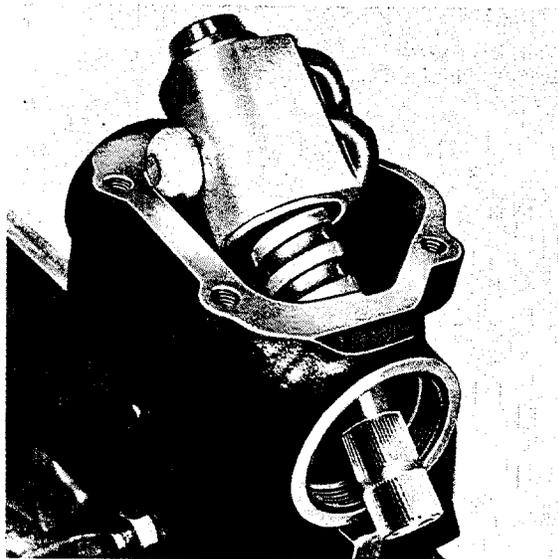

Fig. L 4/10
26. Smear sealing compound on the lower threads of the adjusting ring (2) and screw the adjusting ring into the housing; when doing this, press Guide Sleeve (1) 180 589 0061 onto the steering worm (Fig. L 4/11).
**Note:** It is absolutely essential to use the guide sleeve (1) as otherwise the grease seal which is pressed into the adjusting ring will be damaged by the serrations on the steering worm.